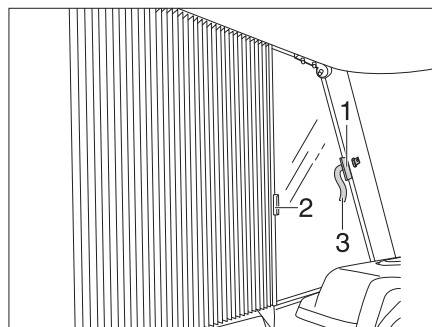

Fig. 82 Roman shade for driver's window and front passenger's window
- Open the Velcro of the securing loops (Fig. 82,3) on both sides.
- Grasp the handles (Fig. 82,1 and 2) of the Roman shades one after the other and draw carefully towards each other until the magnetic catch keeps the Roman shade closed.
- Carefully push the Roman shades back at the handles (Fig. 82,1 and 2).
- Secure the Roman shade with the Velcro of the securing loop (Fig. 82,3).